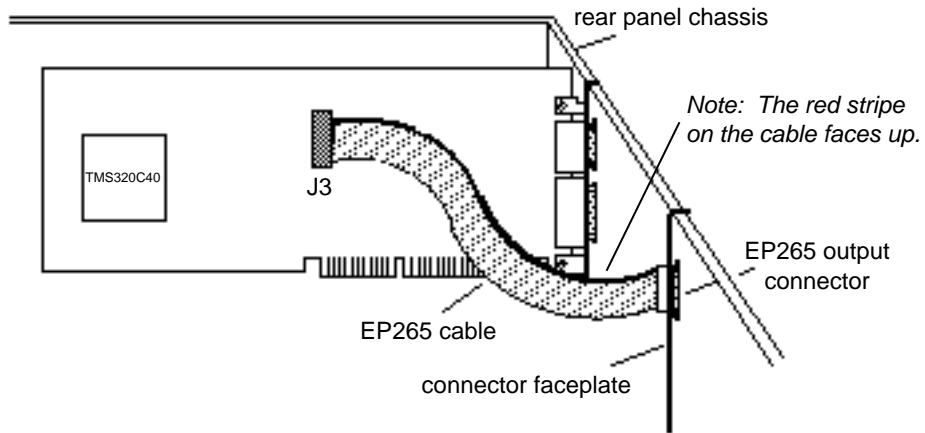

Figure 6: Installing the EP265 Cable Assembly
1. Connect the 14-pin connector on the cable to connector J3 on Fulcrum, as shown in Figure 6 on the following page.